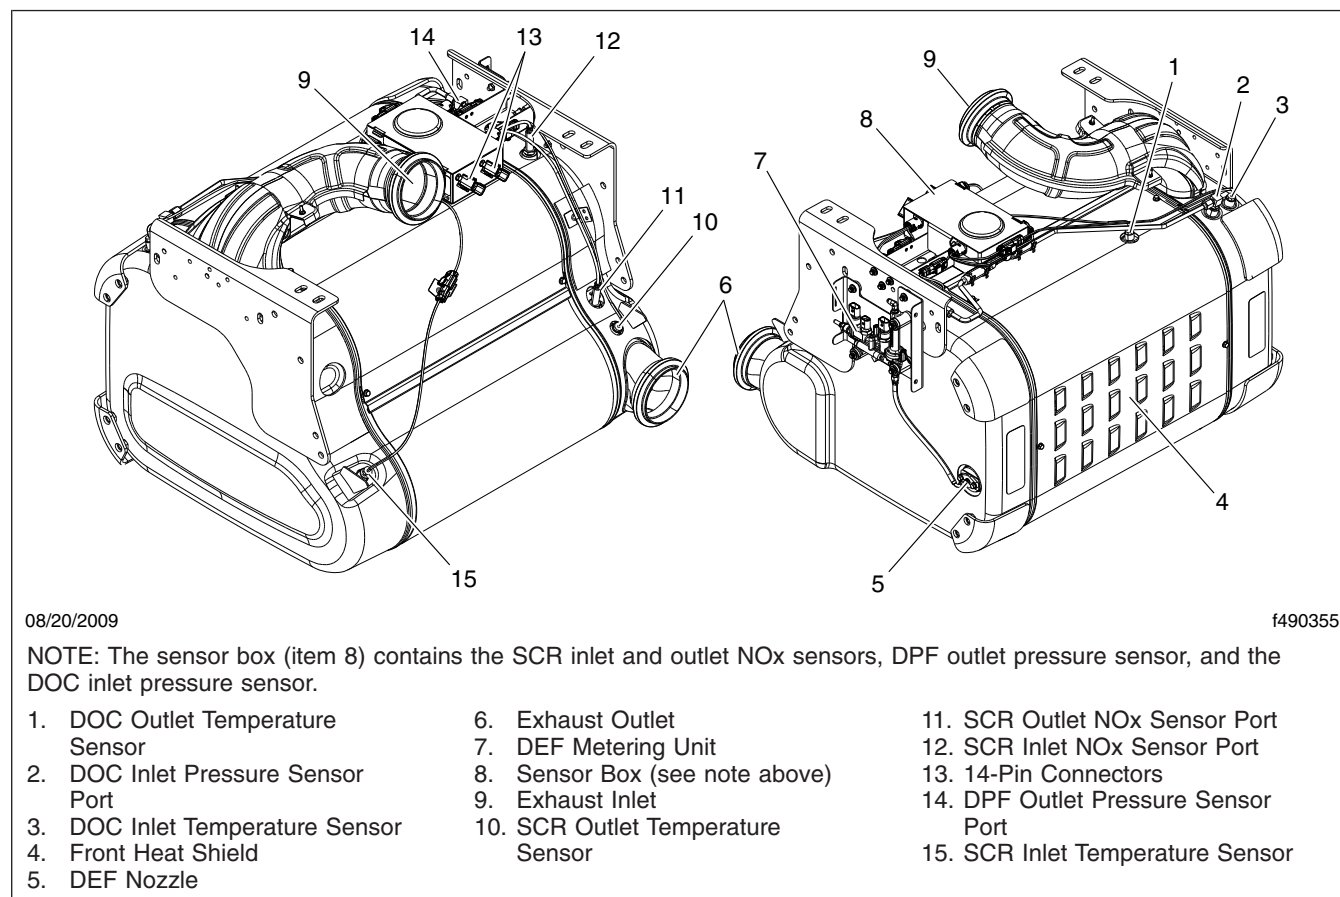

Fig. 1, One-Box ATS Sensor Locations
6. Check all sensors attached to the ATS for leaks or damaged wires. No leaks are allowed. See Fig. 1, Fig. 2, or Fig. 3 for Detroit Diesel ATS sensor locations.